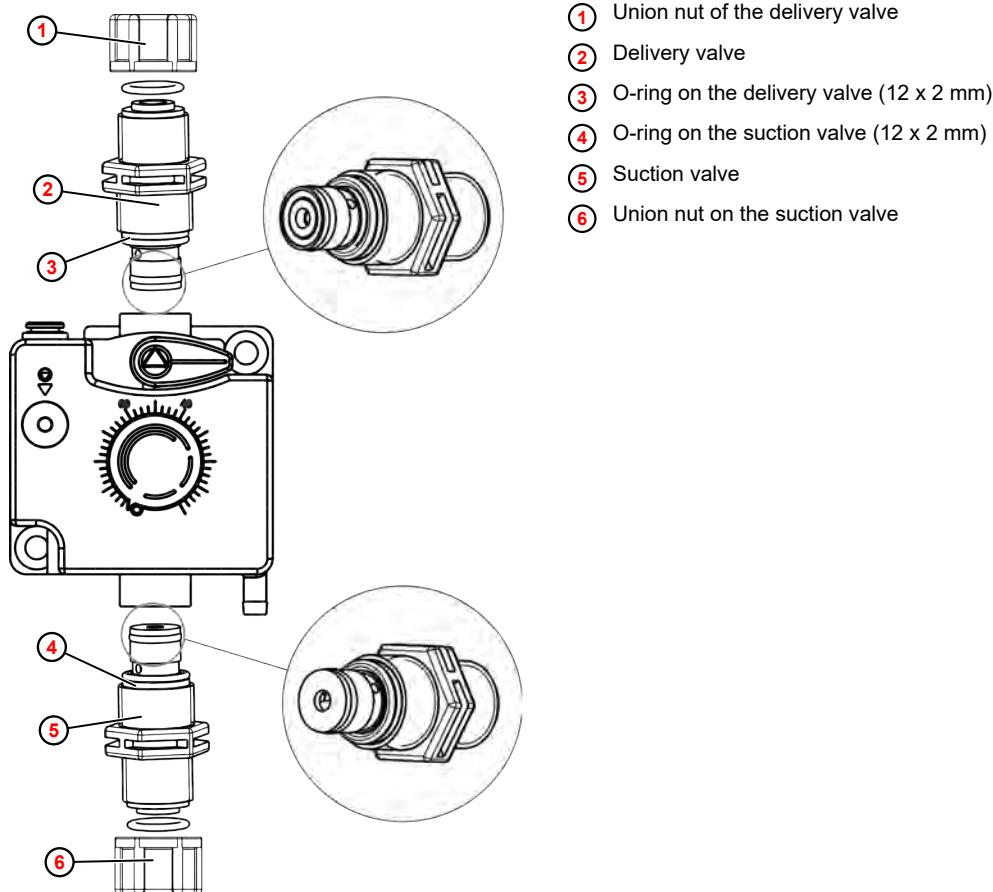

Fig. 18: Replace the suction/delivery valve
1. ➤ Remove the pump head ② as described in section ↗ *Replace the membrane cartridge* .
2. ➤ Unscrew and remove the suction valve ⑩ and delivery valve ⑨ with a spanner (SW22).
3. ➤ Clean the membrane cartridge ③ on the contact surfaces ⑧ to the pump head ② .
5. ➤ Screw in and tighten the suction valve ⑩ and delivery valve ⑨ with the new O-rings (Fig. 18 , ③ , ④).